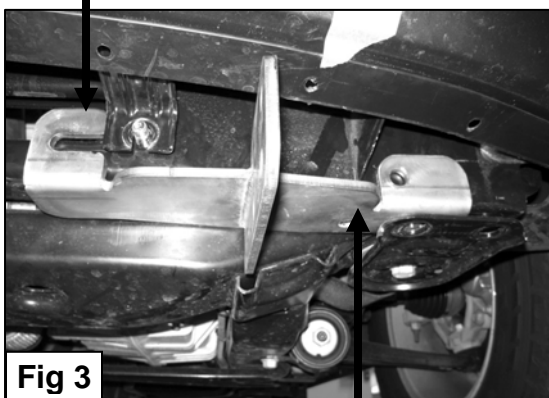

Fig 3
5. Slide the slotted opening on the Mounting Bracket around the radiator support bolt and in between radiator bracket and frame while you slide the Mounting Bracket between motor mount bushing and frame (**Figure 3**).